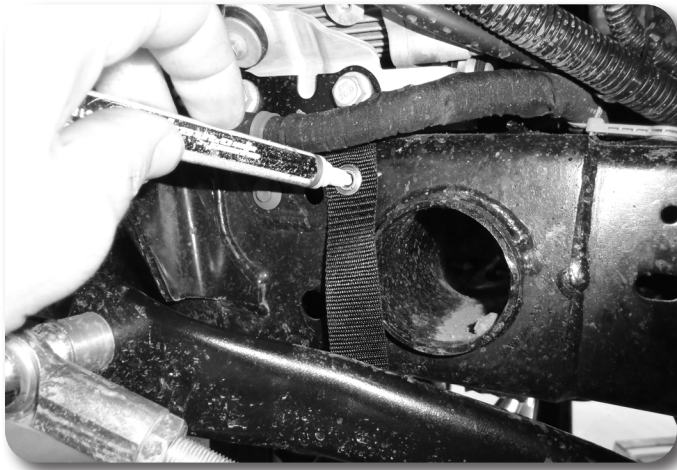

Figure 7
9. Attach the lanyard to the end of the sway bar and use the lanyard to locate the mounting hole position on the side of the frame. **Figure 7**